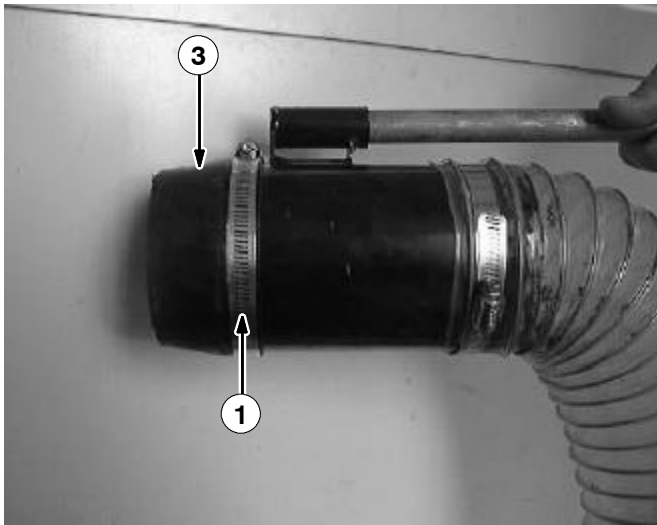

FIG. 7 - BUMPER INSTALLATION
(Refer to FIG. 7)
9. Swing the door into the open and closed positions. Mark and drill the two 11/32 outer door securing holes using the door's securing tab and the dimensions in figure 7 for reference.